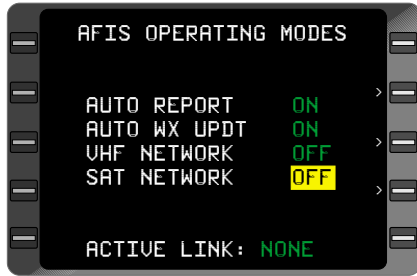

Figure 7-102
4. Line Select Key - DEPRESS to position cursor over **OFF** option of **SAT NETWORK** field. (Figure 7-102)